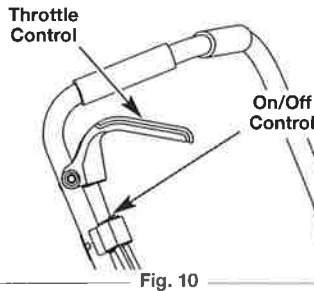

Fig. 10
NOTE: There is no need to turn the unit on. The On/Off Control is in the **ON (I)** position at all times (Fig. 10).
2. Press and hold the On/Off Control in the **OFF (O)** position until the unit comes to a complete stop. (Fig. 10)
- NOTE:** There is no need to turn the unit on. The On/Off Control is in the **ON (I)** position at all times (Fig. 10).